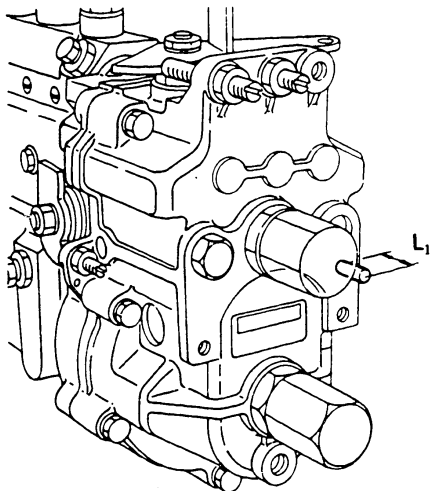

Fig. 172 Pushrod protrusion
- 2) In this condition, use calipers to measure the protrusion (dimension  $L_1$ ) of pushrod (2) from the end face of the governor cover when the specified control rack position is obtained. (Fig. 172)